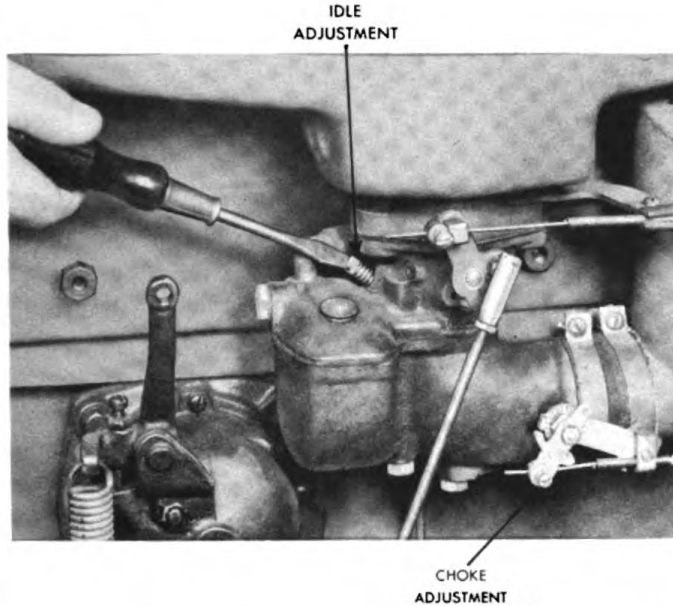

Figure 283. Making Idle Adjustments.
Before adjusting the idling mixture, warm up the engine so that the intake manifold is at least warm to the hand (120° F. or higher). To make the mixture richer, turn needle valve IN—to make the mixture leaner, turn the valve OUT. See figure 283. Make all adjustments after the engine is warm, turning the needle valve right or left until the engine runs steadily and as fast as the throttle will permit. After the engine runs smoothly, it may be necessary to change the position of the throttle stop screw.
- c. Install the idle adjusting needle and spring and adjust to one full turn off the seat. See figure 283.